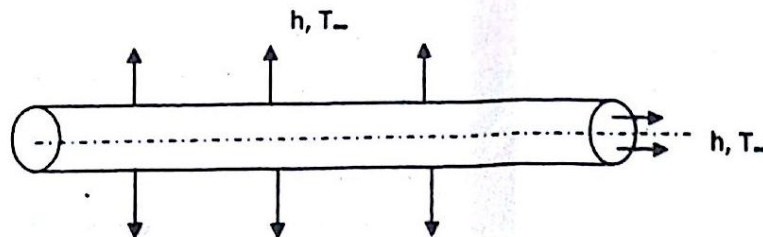

Figure 15 (a)
15. (a) The figure 15 (a) shows a uniform Aluminum fin of diameter 25 mm. The root (left end) of the fin is maintained at a temperature of  $T_{\infty} = 120$  °C, convection takes place from the lateral (circular) surface and the right (flat) edge of the fin. Assuming  $k = 200$  W/m °C,  $h = 1000$  W/m2 °C and  $T = 20$  °C, determine the temperature distribution in the fin using one dimensional element, considering two elements.